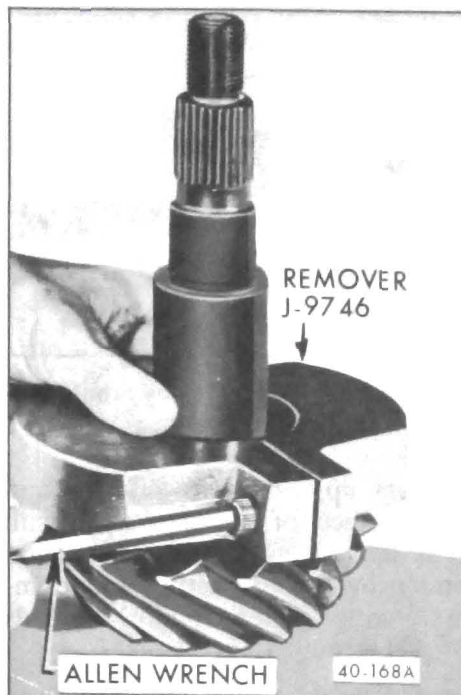

Figure 40-139 Installing Rear Pinion Bearing Remover
5. If pinion or rear pinion bearing is to be replaced, remove rear bearing from pinion shaft using Remover J-9746 and Holder J-6407 in a press or in a set-up using Ram and Yoke Assembly as shown in Figures 40-139 and 40-140.